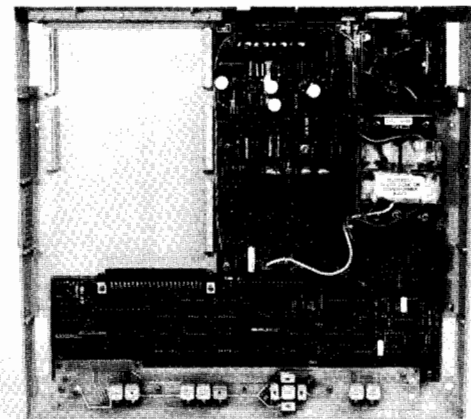

Figure 3-1. Top Cover and Deck Assemblies Identification/Removal
b. Remove the top cover. (See Figure 3-1 detail "A" and "B".)
c. Remove the four screws shown in Figure 3-1 detail "C" ONLY if it is desired to remove the upper deck assembly.